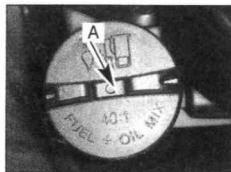

Fig. 22
**NOTE:** Keep vent (A) on fuel cap clean of debris (Fig. 22).